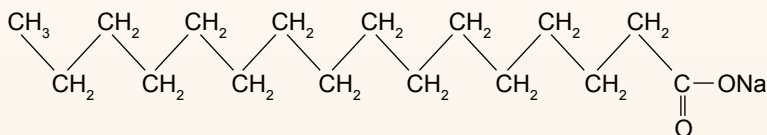

Figure 5.4 Structural formula of sodium palmitate, $\text{CH}_3(\text{CH}_2)_{14}\text{COONa}$
- Figure 5.4 shows an example of the structural formula of soap that is sodium palmitate, $\text{CH}_3(\text{CH}_2)_{14}\text{COONa}$.